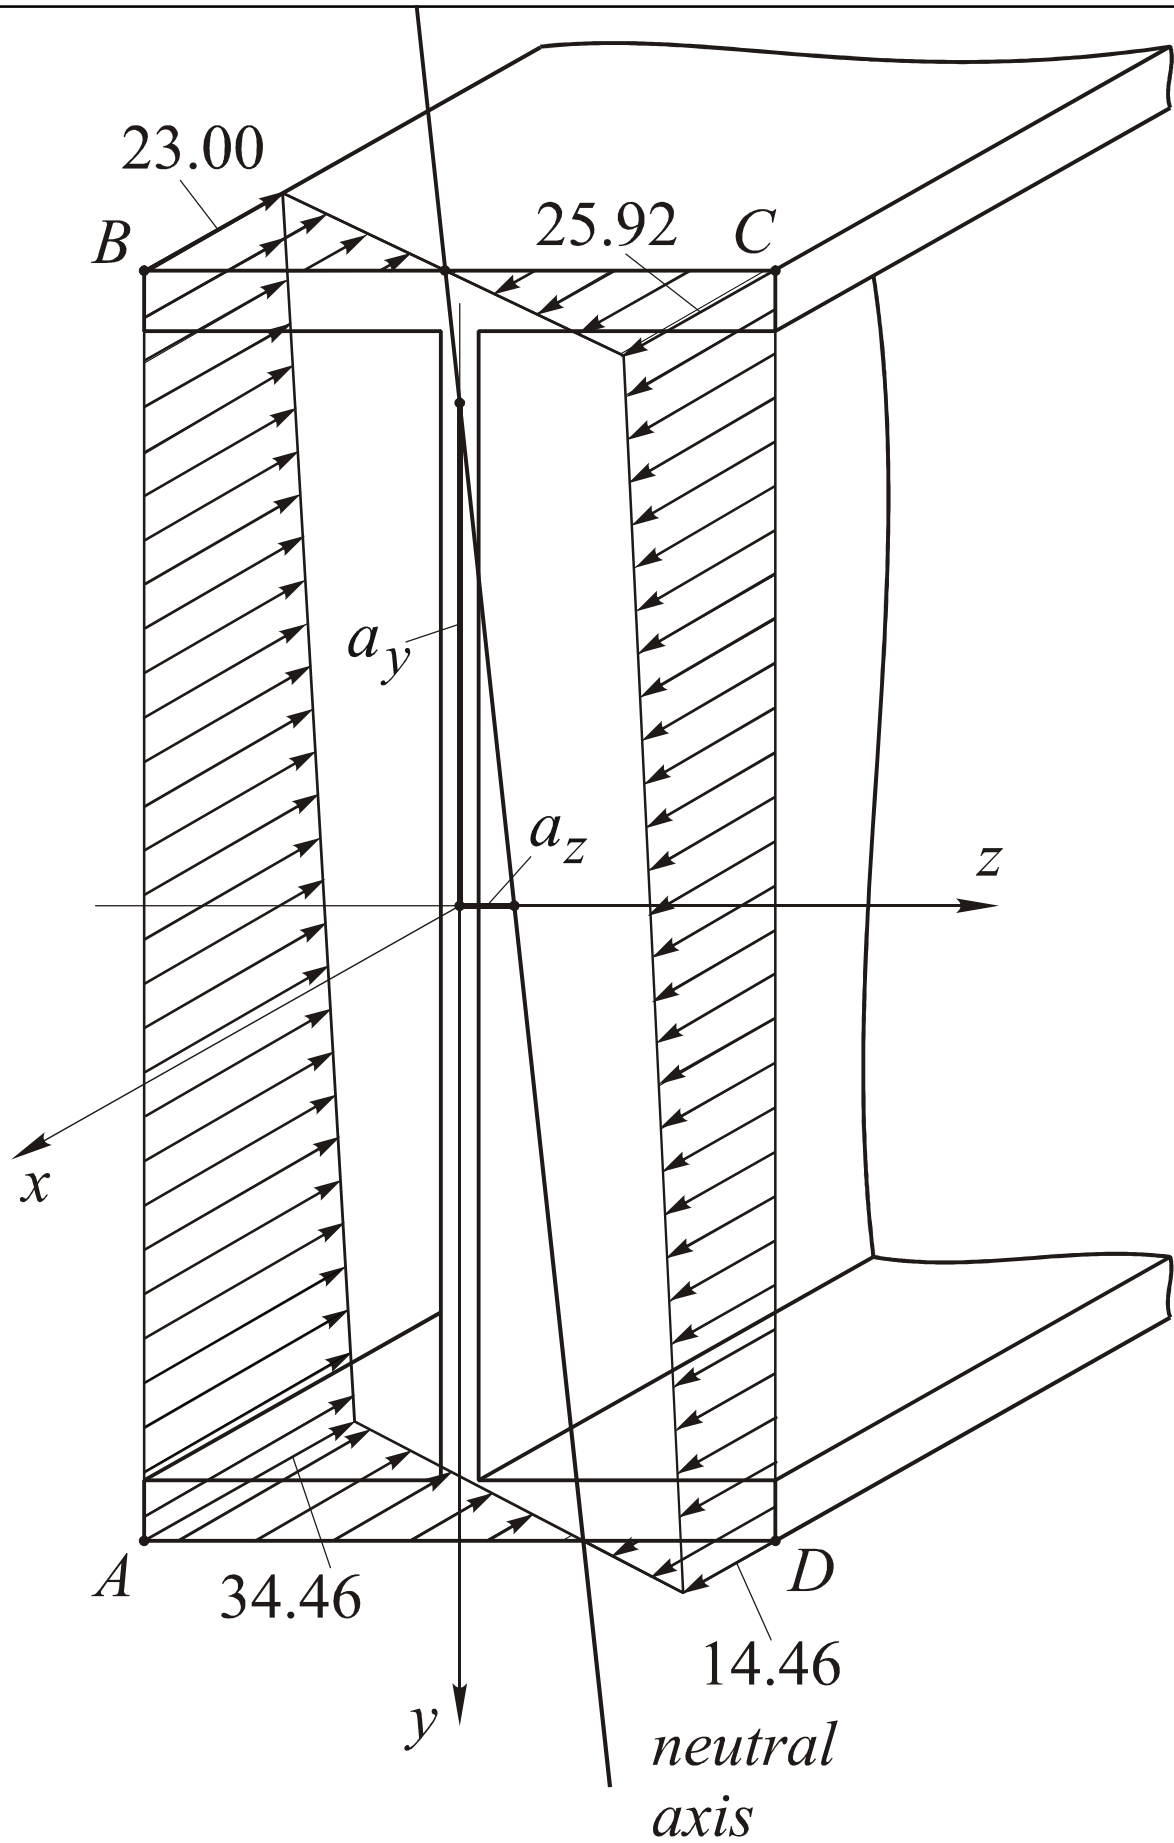

Рис. 3
3) Design the graph of stress distribution in $ABCD$ section in spatial cross section viewing with non-disturbed cross section for future geometrical analysis (see. Fig. 3).
6) Check the solution accuracy, correlating the neutral axis positions on Figs. 3 and 4.